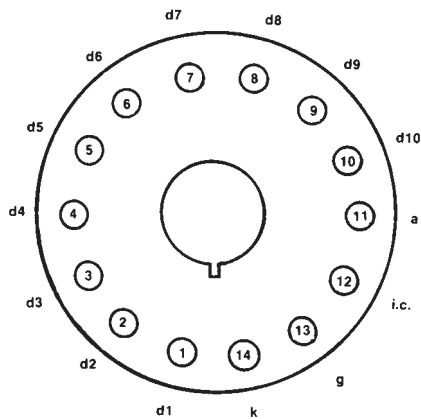
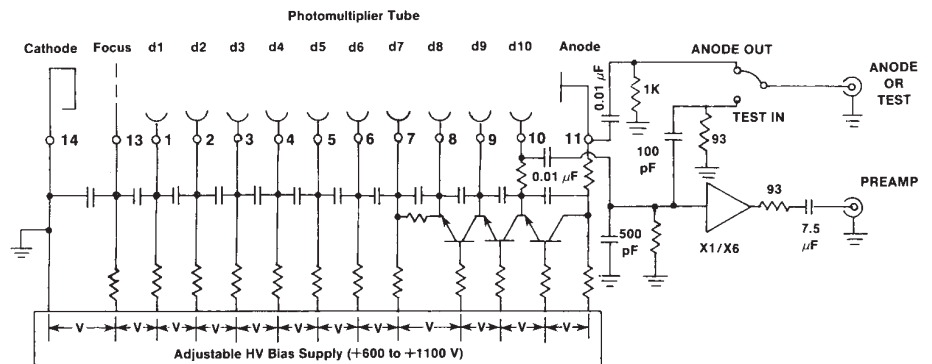

Fig. 1. JEDEC B14-38 PMT Pin Base, with Pin Assignments:
Fig. 2. Simplified Schematic Diagram of the ORTEC Model 296 Photomultiplier Base.
The PMT socket is a standard JEDEC B14-38 socket that fits 10-stage photomultiplier tubes with 14 pins. Figure 1 defines the pin assignments, and Figure 2 illustrates the connections. The Model 296 ScintiPack Photomultiplier Base is compatible with the photomultiplier tubes listed in Table 1. Compatibility with tubes not listed in Table 1 can be checked by reference to Figures 1 and 2, and by comparison with the photomultipliers listed in the table.
**PMT SOCKET** TRW 3B14. Fits the standard JEDEC B14-38 photomultiplier tube pin base for 14-pin, 10-stage PMTS. See Figures 1 and 2 for pin assignments.